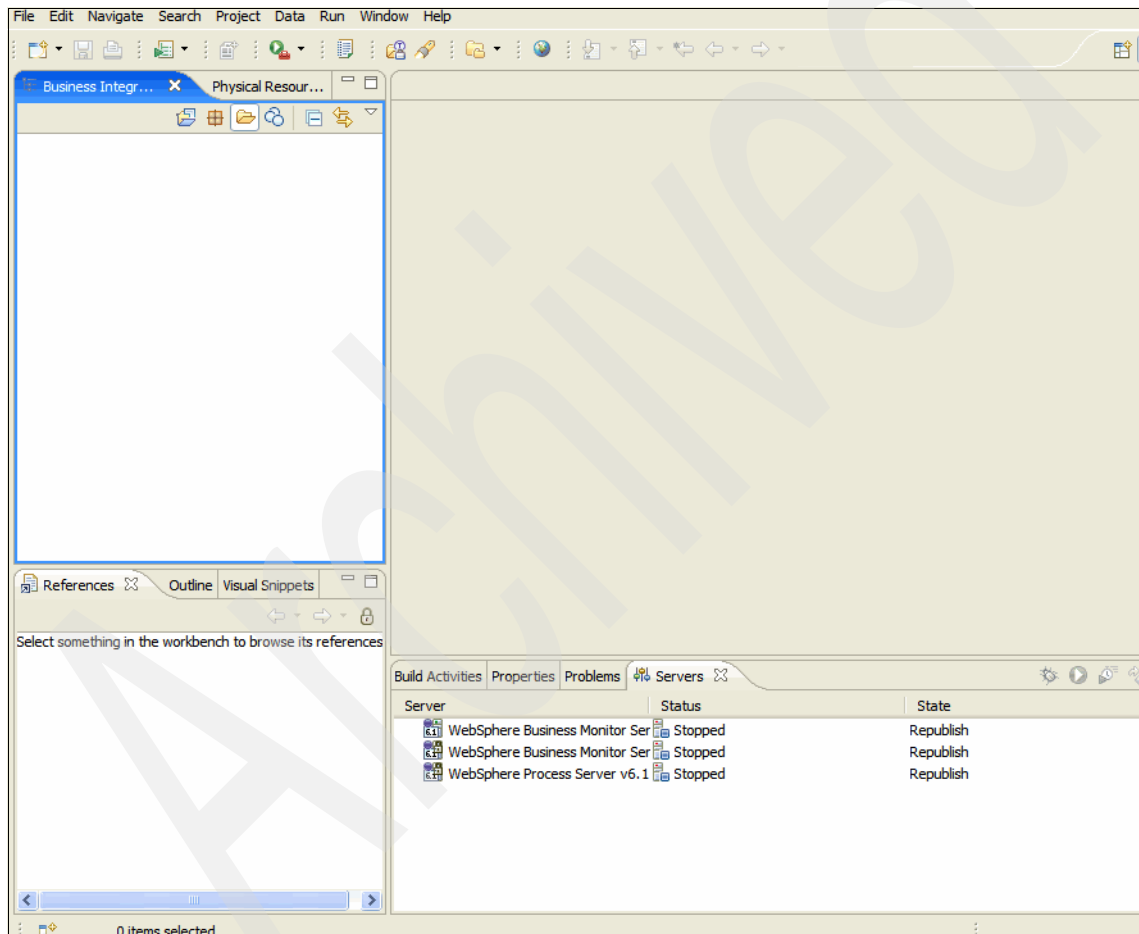

Figure 6-6 Business Integration perspective
1. Start WebSphere Integration Developer and ensure that you are currently in the Business Integration perspective (Figure 6-6). If you are not, follow these steps: